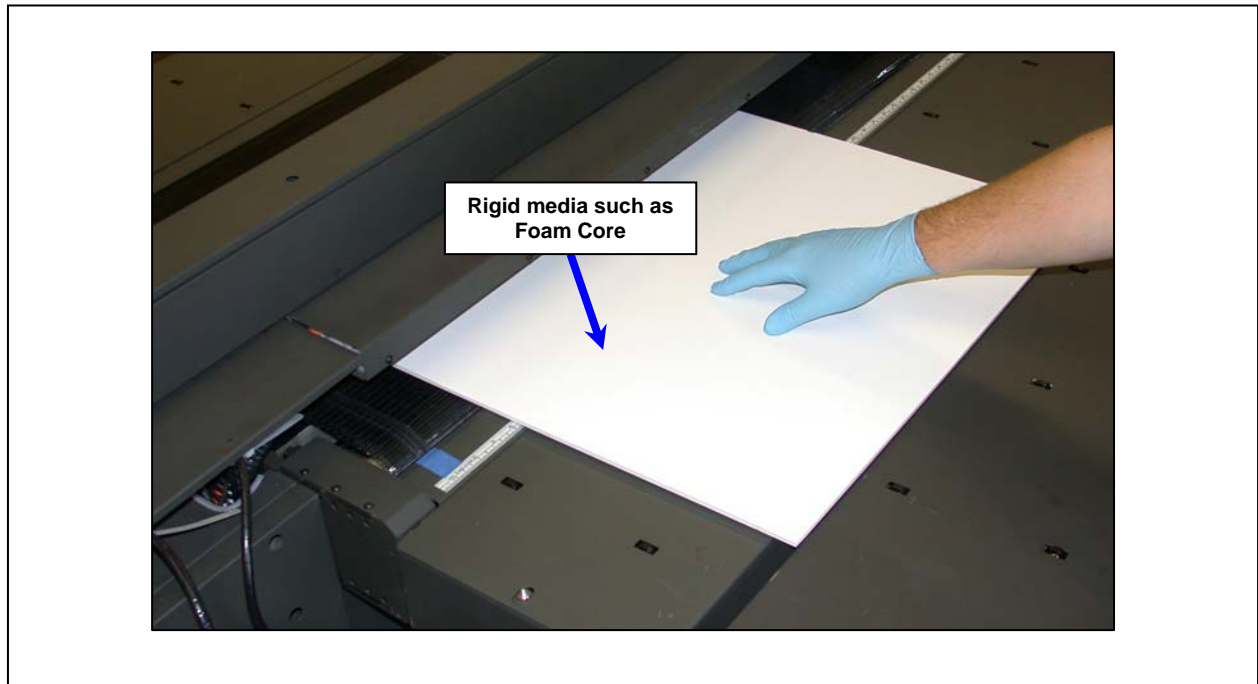

Figure 32 **Placement of Media in Suction Zone**
- 4 Place the rigid media on the vacuum conveyor belt and gently push until the media comes into contact with both media stops. Check to ensure proper print media alignment. See **Figure 32**.